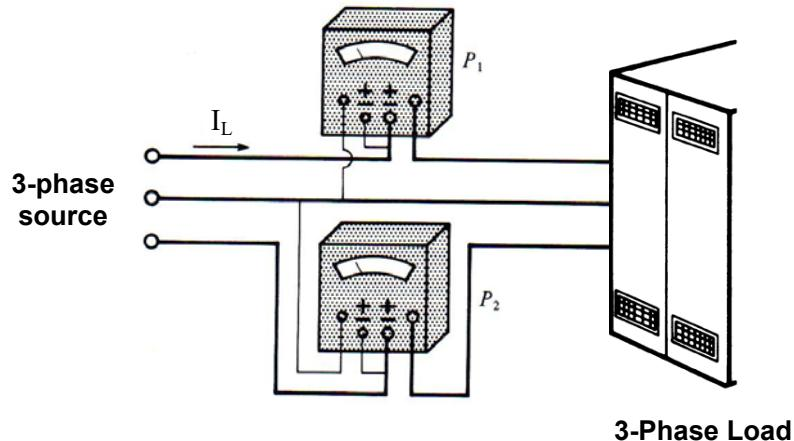

Figure 3.1
- (c) Two wattmeters are connected to a 3-phase, 3-wire, 415 V line as shown in Figure 3.1. The readings on wattmeters P_1 dan P_2 are 3.8 kW and 5.5 kW respectively. If the line current is 15 A, calculate: